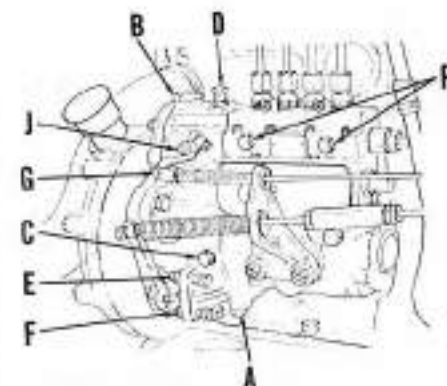

Fig. 59—View of Simms injection pump showing service points.
105. Check to see that fuel tank contains at least two gallons of fuel, open the fuel supply valve and refer to Figs. 58 and 59. Turn engine, if necessary, so that primer lever (4-Fig. 58) will operate fuel lift pump. Loosen bleed screw (1) on filter base. Operate primer lever until fuel flows freely with no trace of air bubbles from the bleed screw opening. Tighten the bleed screw while maintaining flow of fuel with primer lever. Open the bleed screws (P-Fig. 59), then operate primer lever until air free fuel flows from both bleeder openings and tighten bleeder
**108. EXCESS FUEL DELIVERY DEVICE.** Refer to Fig. 59. Move throttle to wide open position and depress excess fuel delivery button (J) which will allow pump rack to by-pass the normal fuel stop position, allowing pump to deliver excess amount of fuel when cranking engine. As soon as engine starts, the spring loaded button will disengage and return to normal position.
**116. LUBRICATION.** The Simms fuel injection pump is lubricated by oil sump in the pump cam box. After each 500 hours of operation, the pump should be drained and refilled to proper level with new, clean engine oil. Use same weight and type oil as for engine crankcase. Refer to Fig. 59 for location of drain plug (A), oil level plug (C) and filler plug (B).